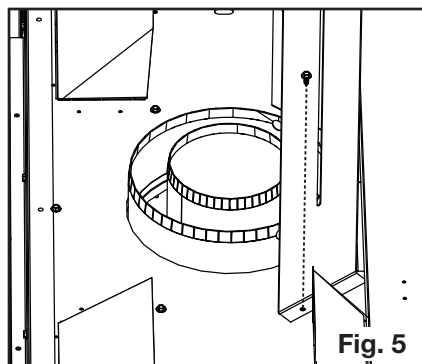

Fig. 5
5. Align the vent shield with the holes and replace above screws (Figure 5).